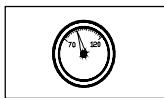

Fig. 4
5. Regulate the air pressure to obtain 70 PSI (4.8 bar) at the tool. (See Fig. 4)